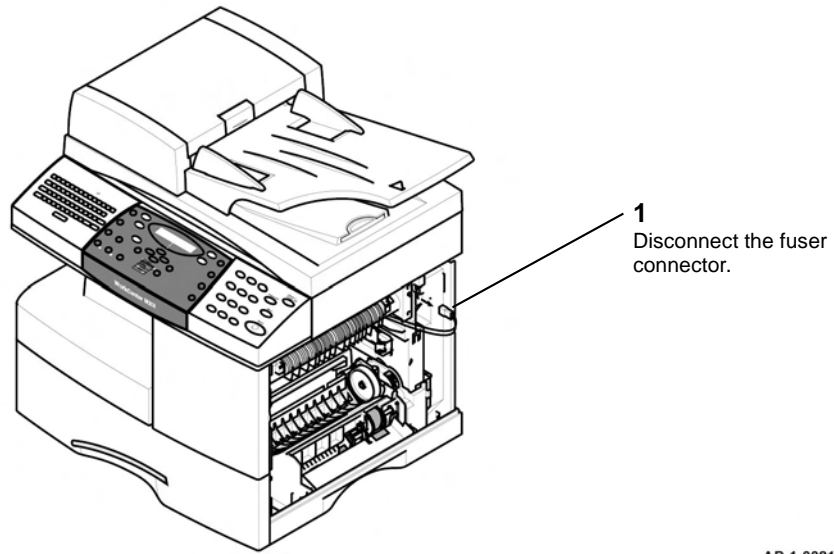

Figure 2 Fuser connector
NOTE: The M20F and 4118 procedures are the same. The M20F is shown in Figure 1, Figure 2 and Figure 3.
NOTE: For clarity, the ELA HOU - side cover assembly is shown removed from the machine in Figure 1, Figure 2 and Figure 3.
3. Disconnect the fuser connector, Figure 2.